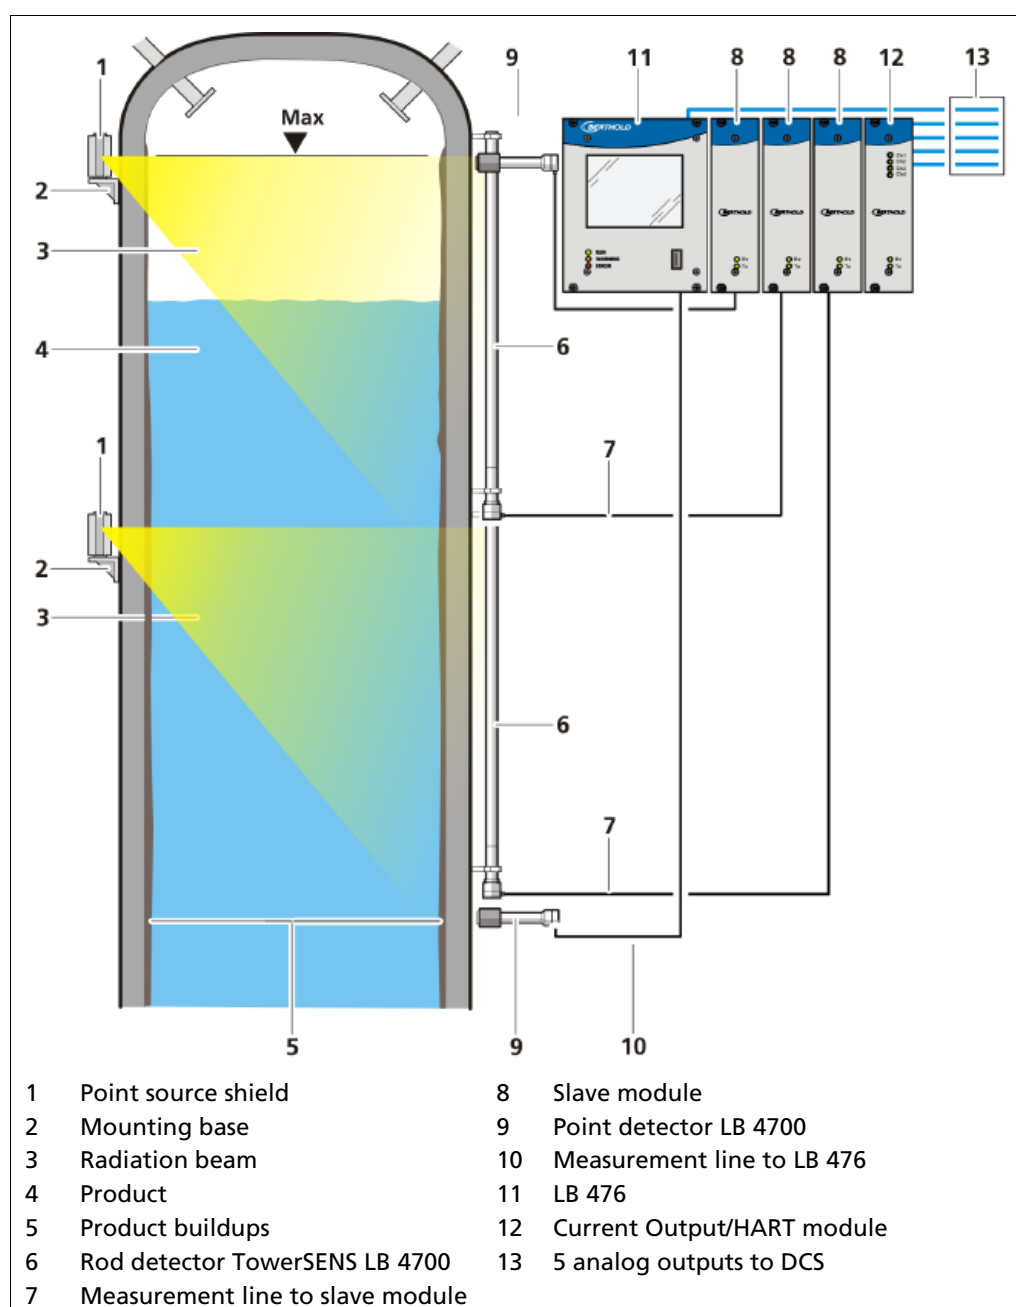
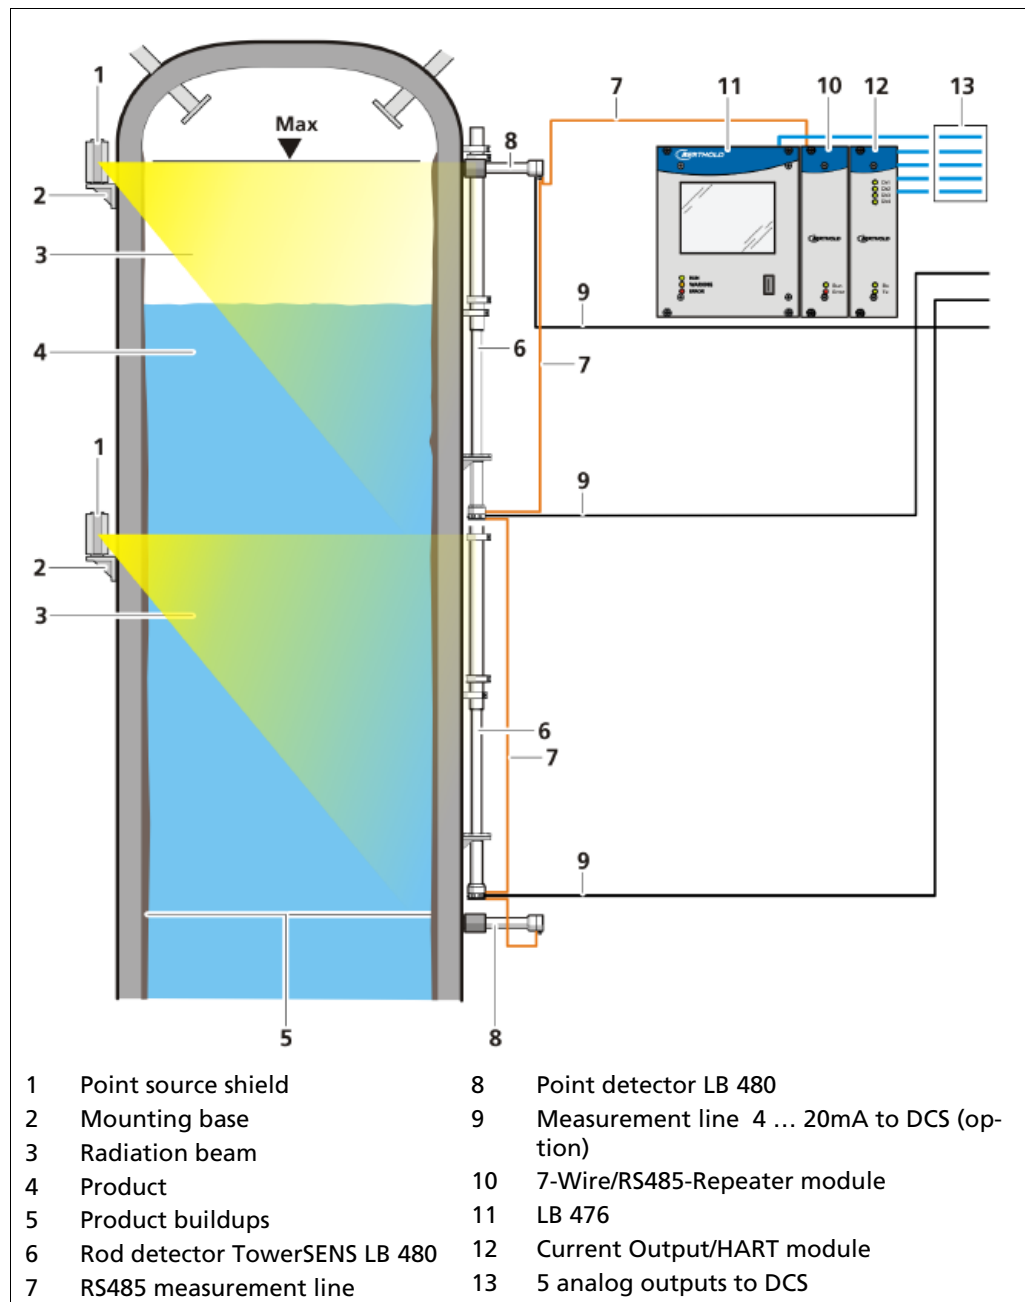

Fig. 1 Example measurement arrangement with LB 4700 detectors
Fig. 2 Example measurement arrangement with LB 480 detectors
These instructions concern the installation of the modules (Fig. 1, item 8, item 11 and item 12, Fig. 2, item 10, item 11 and item 12) and the operation of the evaluation unit DuoXpert LB 476 (Fig. 1, item 11). The operation of other system components is part of the independent instructions of the respective system components. The modules are standard equipment in switch rooms with 19" subracks or switchboards.